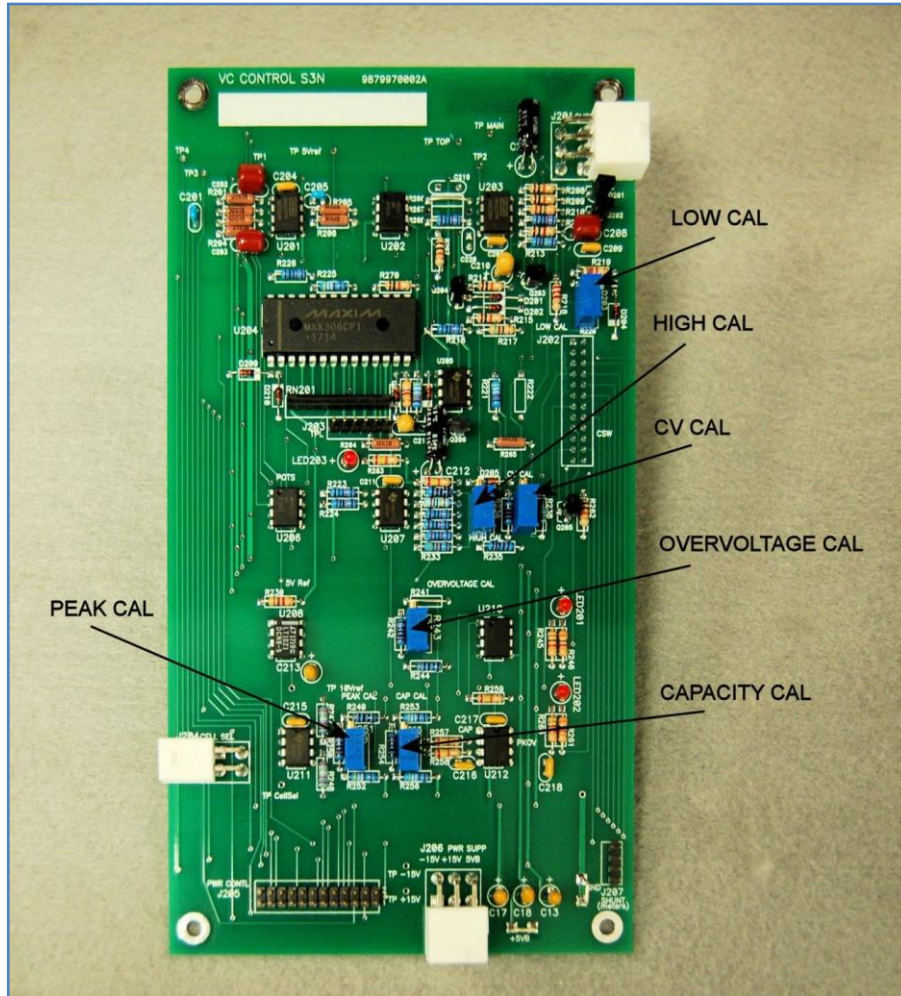

Figure 7 – Voltage/Current Control Board Adjustments
- See [Figure 7] for adjustments
- See [Figure 7] for adjustments.
- Start the unit in the full discharge mode (red). Unit will run. Increase the discharge current selector to any value above 1 AMP (010). Unit will continue to run.
- Set the main charge current selector to 25 AMPS (250)
- Set the topping charge current selector to 1 AMP (010).
- See [12.2.3] and [Figure 7] for adjustments.
See [Figure 7] for adjustments.
14.2.3 Voltage/Current Control. See [Figure 7].
14.2.3 Voltage/Current Control. See [Figure 7](continued)